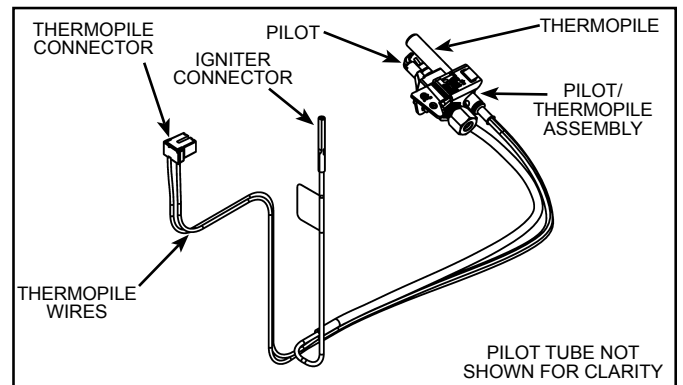

Figure 37
5. Lift the pilot/thermopile assembly (including the igniter wire) from the manifold assembly (see Figure 37).